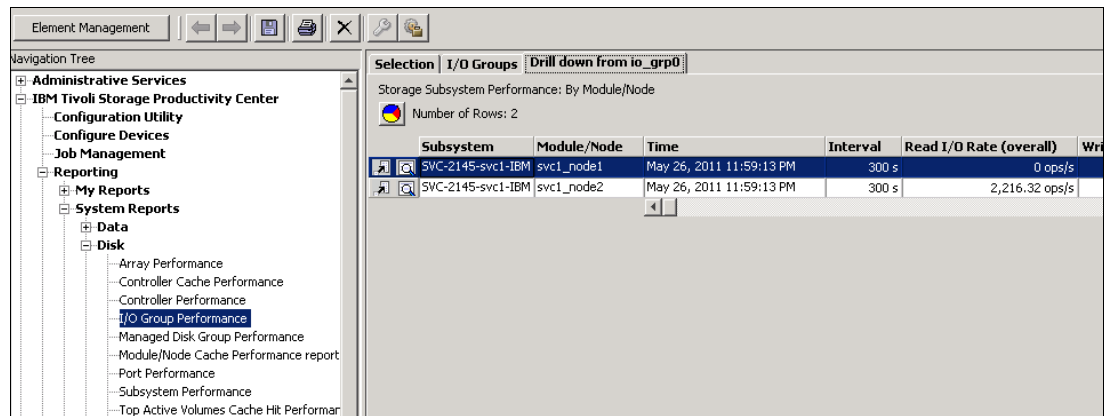

Figure 13-94 SAN Volume Controller node port selection
- Click the magnifying glass icon (🔍) to drill down to the node level. As shown in Figure 13-94, we chose node 1 of the SAN Volume Controller subsystem. Click the pie chart icon (📊).